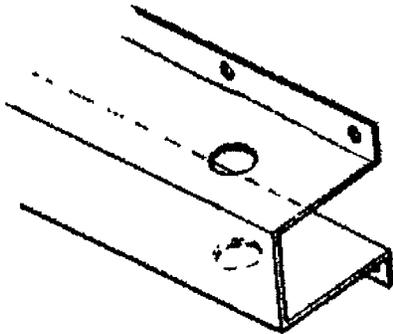

Figure 5-14. Heavy Duty Bracket
- n. The heavy-duty bracket (Figure 5-14) provides additional strength to support heavy items such as electric drills, pneumatic drills, soldering guns, etc.